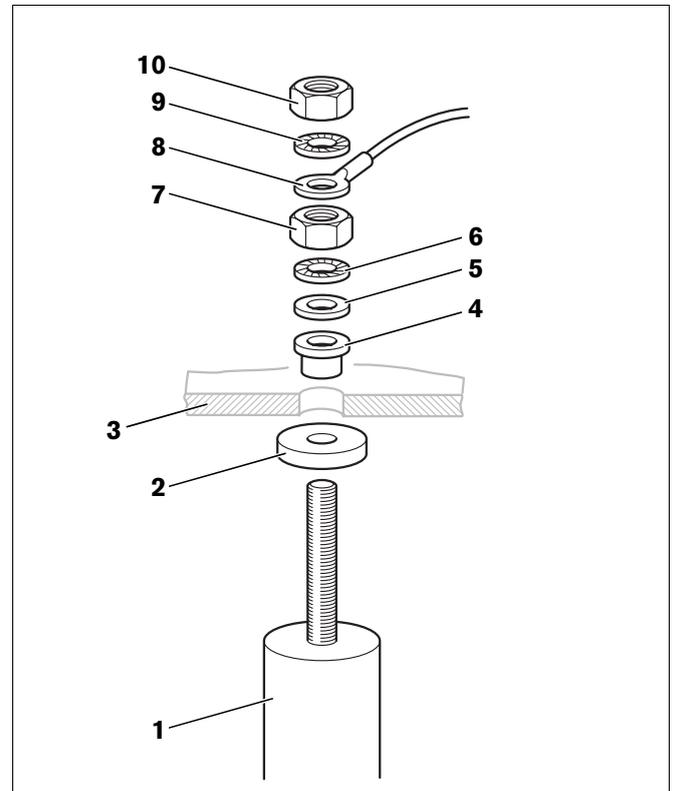

Fig. 16 Replacing the magnesium anode
- Remove M8 nut (Fig. 16, **Item 10**) to release the ground wire eyelet (Fig. 16, **Item 8**).
- Remove M8 nut (Fig. 16, **Item 7**).
- Remove the access port cover (Fig. 16, **Item 3**) from the magnesium anode (Fig. 16, **Item 1**).
- Fit the new magnesium anode together with all small parts supplied with it, as shown in Fig. 16.